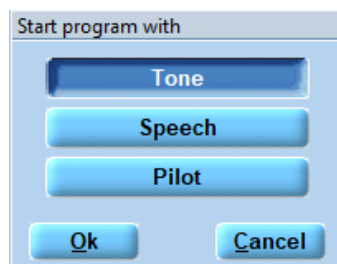

Figure 95
**Start with Tone:** Pressing the **Start with Tone** button opens a message box that allows for the selection of the test the program shall start with (Figure 95).